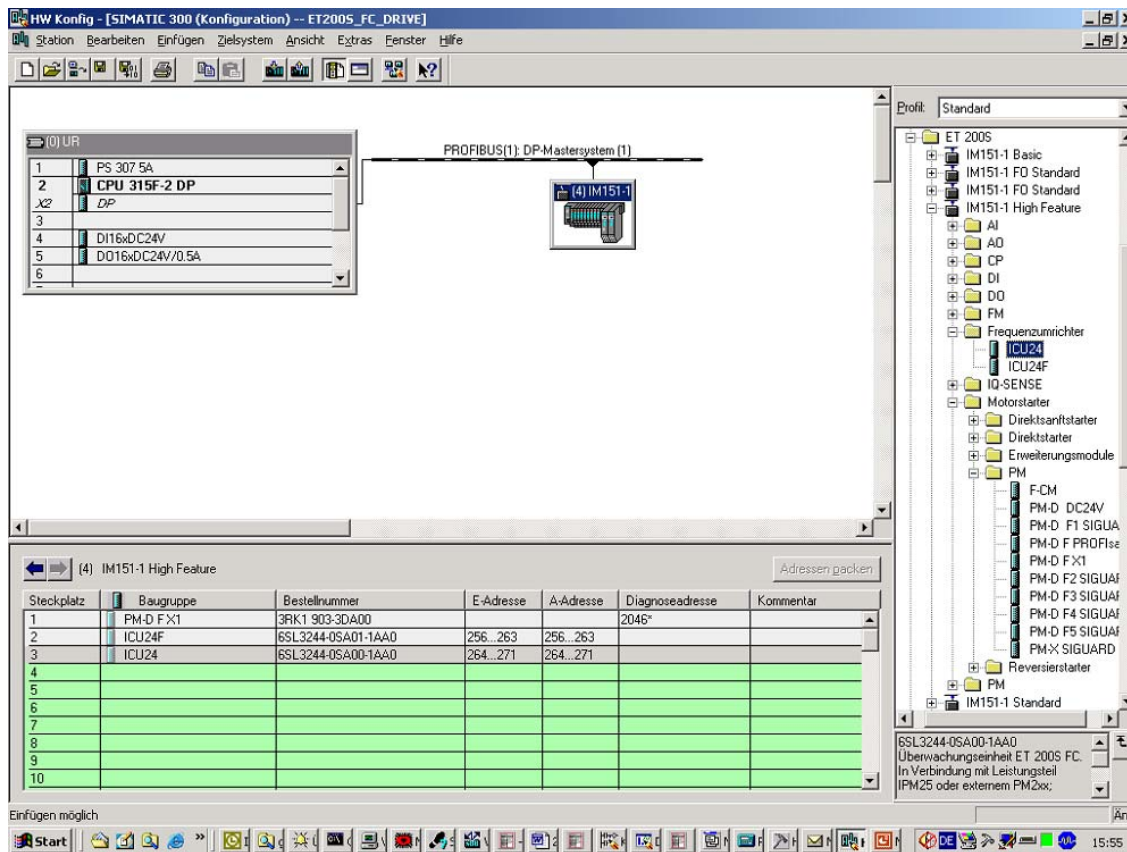

Fig. 5-3 Inserting an ICU24
- The address must be specified in the hexadecimal form; e.g. the starting address 256 signifies the following: LADDR:=W#16#100 (refer to Fig. 5-3)
- The input address range and output address range of the ICU24(F) must be identical.